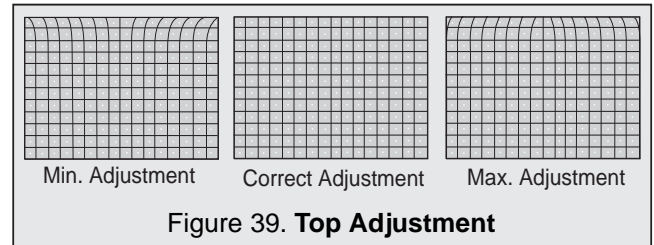

Figure 39. Top Adjustment
2. Adjust "TOPG" to straighten upper lines (See Fig. 39)